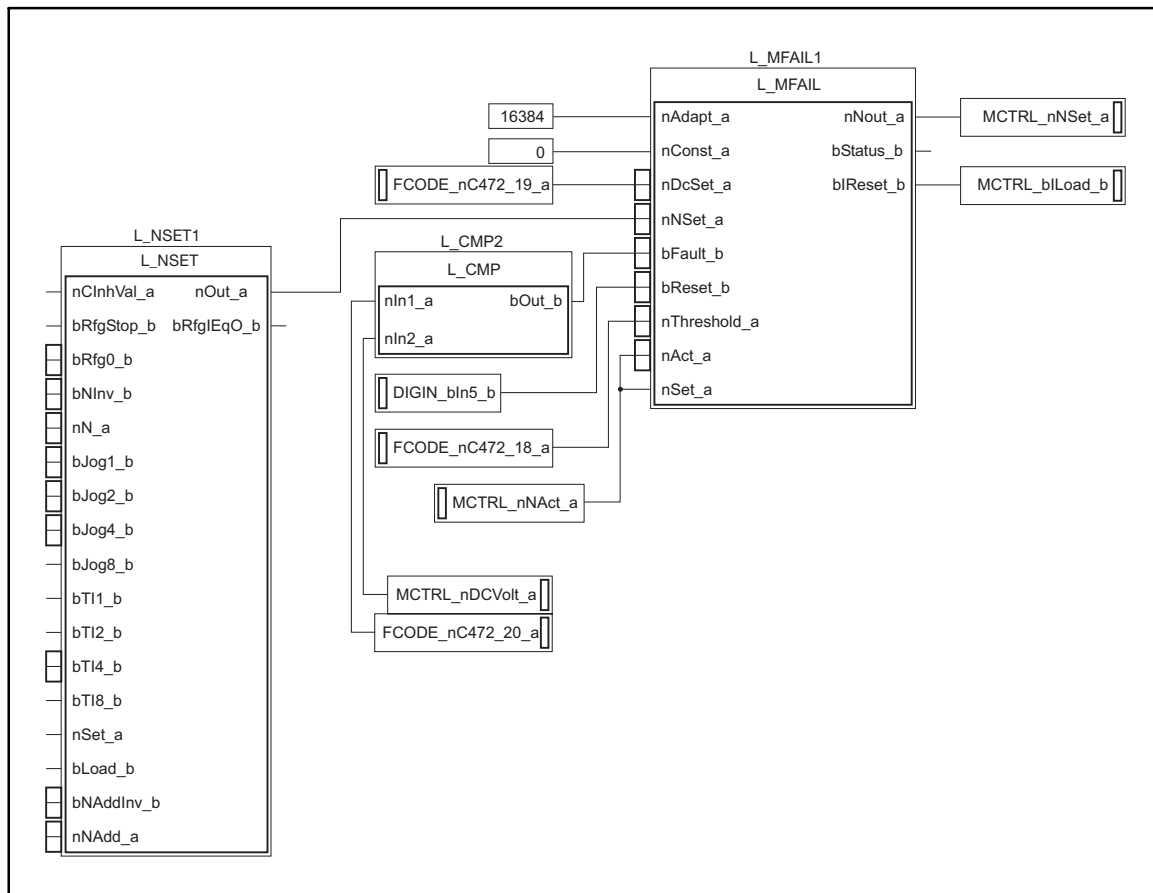

Abb. 2-10 Links for the configuration CFG1000.lpc
Programming the example (SpeedModelInternal24VSupply.lpc) in Abb. 2-10:
1. Set the signal links according to Abb. 2-10 (see the following table for explanation).